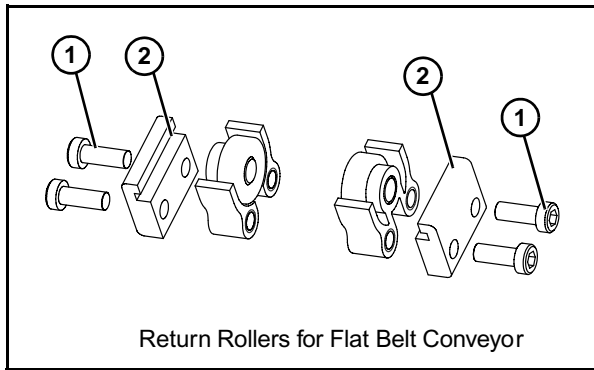
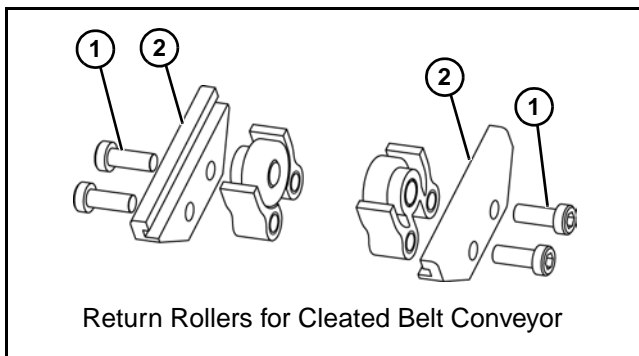

Figure 16
Figure 17
1. Locate return rollers. Exploded views shown in (Figure 16) & (Figure 17).
2. Remove screws (Figure 16, item 1) & (Figure 17, item 1) and clips (Figure 16, item 2) & (Figure 17, item 2) from roller assembly.